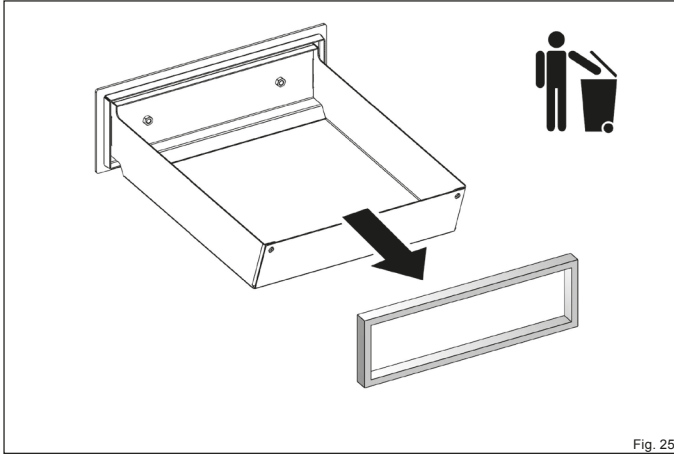

Fig. 25
- ▶ Pull the old seal out of the rail and dispose (Fig. 25).